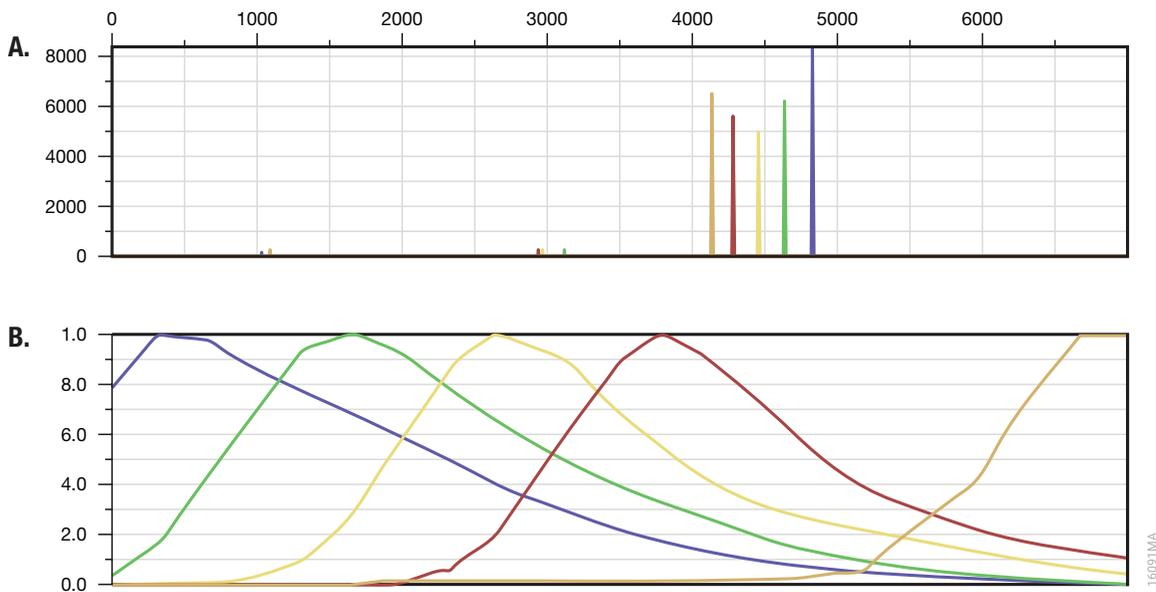

Figure 1. Representative data for the OncoMate™ 5C Matrix Standard. Panel A. Resolved fragment peaks. **Panel B.** Dye emission spectra.
1. Upon completion of the spectral calibration run, review the spectral calibration results. For each capillary, check the Quality Value and Condition Number of the spectral calibration and inspect the spectral emission data displayed. Passing capillaries will have a Quality Value of ≥ 0.95 and a Condition Number of ≤ 8.0 . Ensure that the order (left to right) of the resolved fragment peaks in the intensity vs scan number display is orange, red, yellow, green and blue (Figure 1, Panel A). Ensure that the order (left to right) of the dye signals in the emission spectra display is blue, green, yellow, red and orange (Figure 1, Panel B).